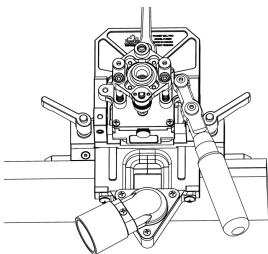

FIG. 10
3. Loosen the adjustable locking handles and adjust your plate until the center line is lined up with the lines that are laser engraved on our referencing window. (See Figure 10)